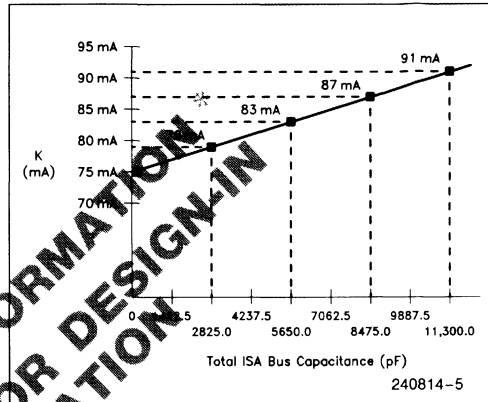

Figure 5-1. Variation of the constant current (K) with respect to the total ISA bus capacitance
The value K is constant only if the ISA bus loading is constant. Figure 5-1 shows the value of K for different values of ISA bus capacitance.
K = Is a constant in MilliAmps which is determined by reading the value in Figure 5-1.
3. From Figure 5-1 draw a line from the horizontal axis (capacitance) where it intersects the diagonal line.
4. From Figure 5-1 draw a perpendicular line to the vertical axis to determine K.